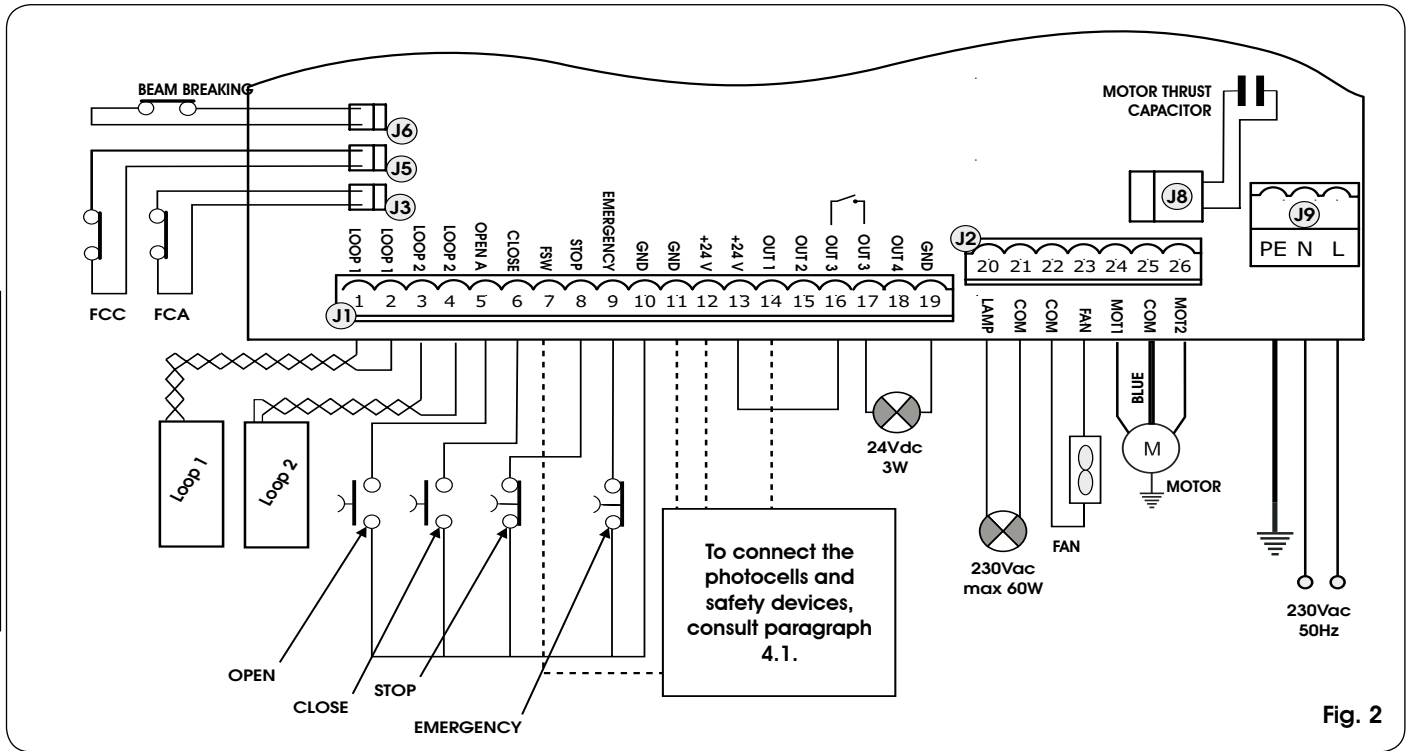

Fig. 2
4.2. J1 TERMINAL-BOARD - ACCESSORIES (FIG.2)
Connect a 24 Vdc - 3 W max. indicator light, if any, to these terminals, following the instructions in fig. 2.
4.3. J2 TERMINAL-BOARD - MOTOR - FLASHING LIGHT AND FAN (FIG.2)
4.4. J8 CONNECTOR - MOTOR CAPACITOR (FIG.2)
4.5. J9 TERMINAL-BOARD - POWER SUPPLY (FIG.2)